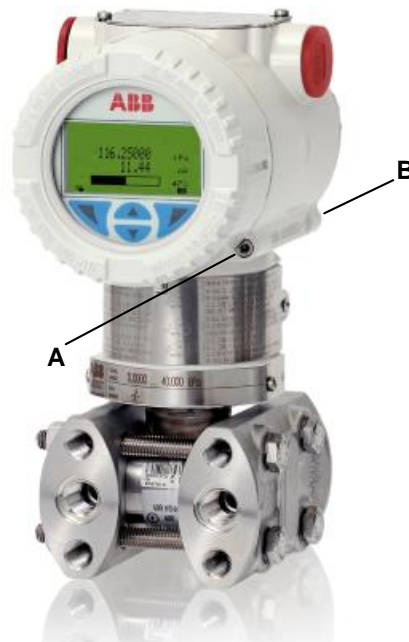

Figure 35: Transmitter housing security screws
2. Locate the security screw (A or B) adjacent to the housing cover (Figure 35) and turn it clockwise using the provided Allen wrench. As the screw tightens into the socket, it eliminates the obstacle from the tabs that extend from the cover. This allows the cover to rotate past the screw.
2. Locate the security screw (A or B) in the housing (Figure 35) and turn it counterclockwise using the provided Allen wrench. As the screw backs out from the socket, it creates an obstacle for the tabs that extend from the cover. This does not allow the cover to rotate past the screw.